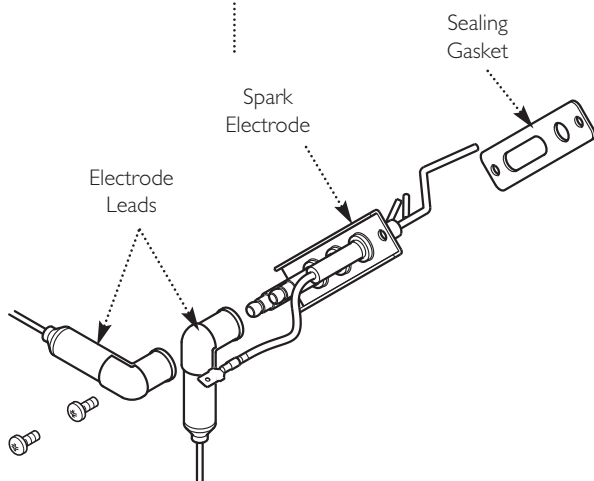

Fig. 53
13.2 Electrode Assembly (Fig. 53)